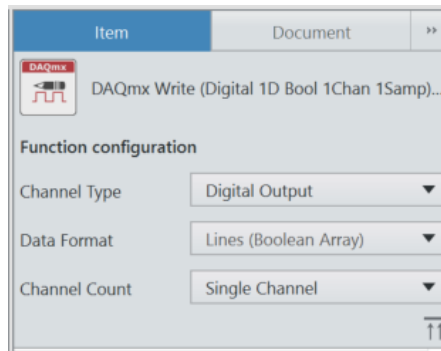

Figure 5-30 You can write an array to the digital lines on the NI 9472 using the DAQmx Write VI.
- Click on the new **DAQmx Write VI** and change the Function Configuration in the Item tab of the Configuration Pane as shown in Figure 5-30.